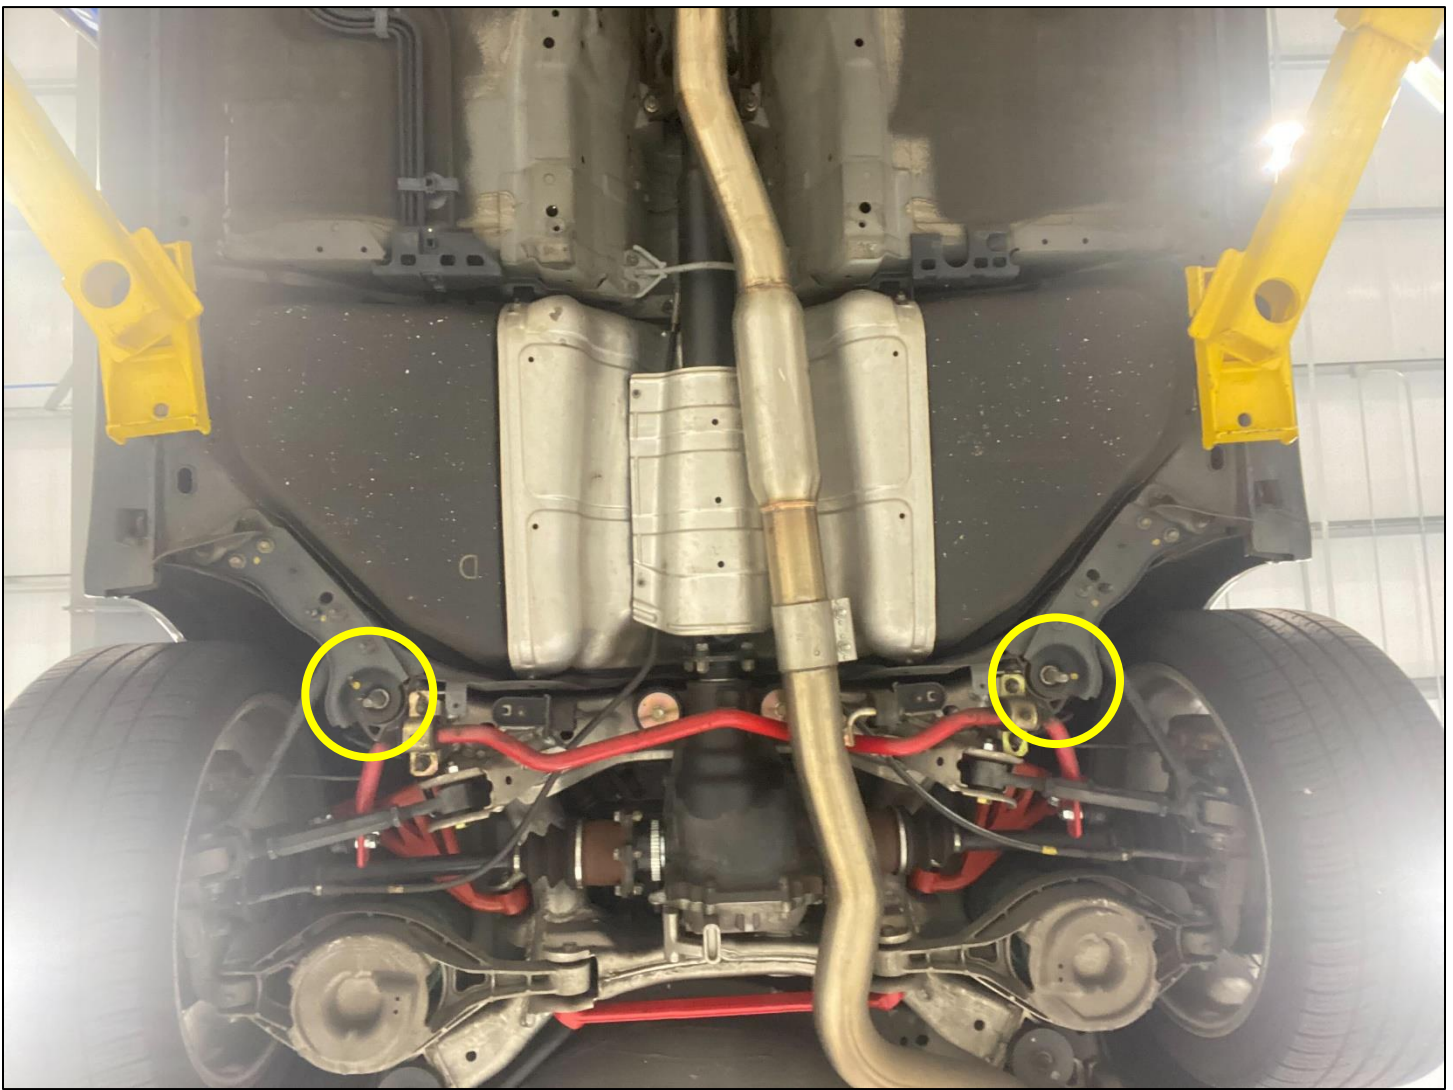

Figure 2
4. Remove the (2) two forward Rear Subframe Nuts, retain this hardware. Circled below in *Figure 2*.